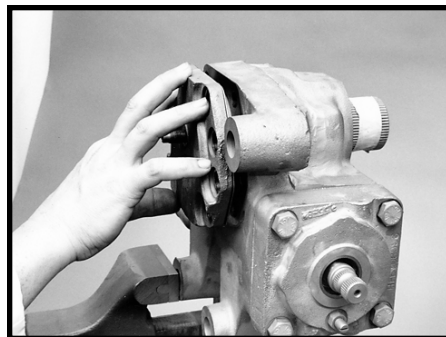

Figure 152
45. Clean off any old tape on the sector shaft (48) serrations. Retape the serrations and bolt groove with one layer of tape. Assemble the sector shaft (48) side cover (56) assembly into the gear housing (19), with the center tooth of the sector shaft engaging the tooth space between the second and third teeth on the rack piston. SEE FIGURE 152.